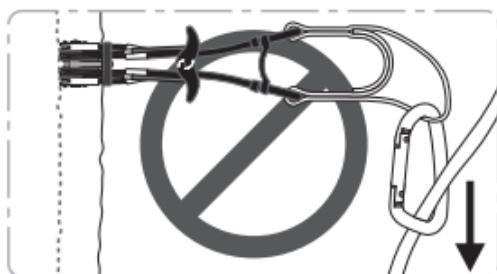

Figure 4
- Do not use the Totem Cam in shallow cracks, where the Totem Cam body can not be properly aligned with the expected load (**see figure 4**). The strength is lower in this situation, and also the device could slip out.
This can result from a severe transversal load (**see figure 4**). In this case, manually pull down on the spring to separate it from the guide. Then release the spring.